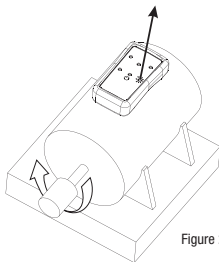

Figure 2
- Place the 5124 towards the motor, in parallel with motor shaft. The bottom of the instrument should face the shaft. The 5124 should be oriented such that it is opposite the front of the motor as shown in Figure 2. The motor location indicator is also shown on Figure 1.
- Press the "ON" button and the power indicator will illuminate and the test will begin. While the motor is running, the "Clockwise" (R) or "Counter clockwise" (L) will illuminate indicating the direction of rotation of the motor.